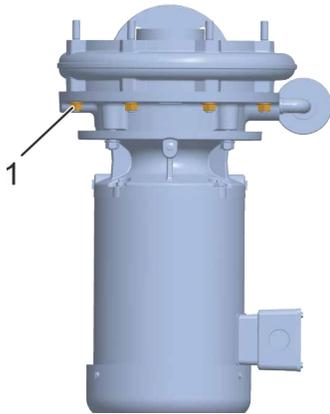

Fig. 69 Nuts for fastening the pump casing (example: herborner.F-N)
21. Remove the nuts for fastening the pump casing (Fig. 69/1) on all sides and place them to one side for later assembly along with the washers.